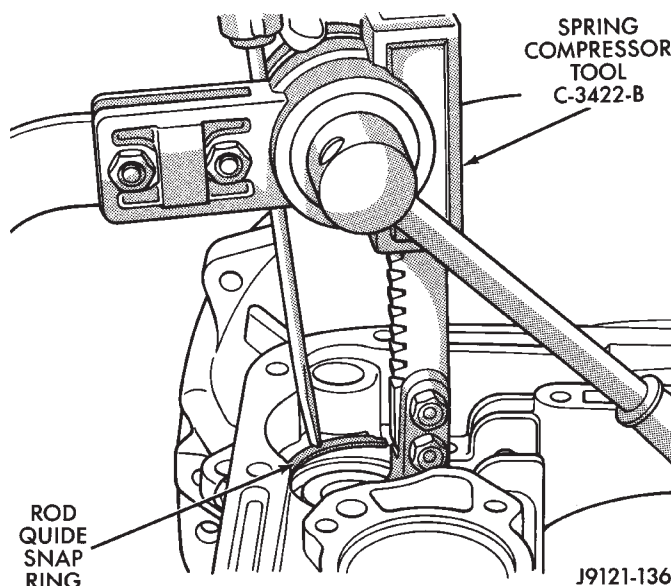
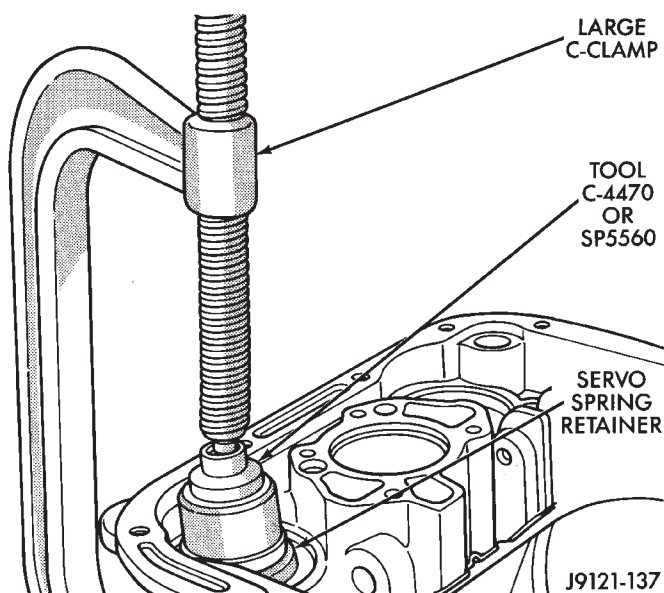

Fig. 91 Compressing Front Servo
Fig. 92 Compressing Rear Servo Spring
(33) Compress front servo rod guide about 1/8 in. with large C-clamp and Tool C-4470, or Spring Compressor Tool C-3422-B (Fig. 91).
(34) Remove front servo rod guide snap ring (Fig. 91). **Exercise caution when removing snap ring. Servo bore can be scratched or nicked if care is not exercised.**
(35) Remove compressor tools and remove front servo rod guide, spring and servo piston.
(36) Compress rear servo spring retainer about 1/16 in. with C-clamp and Tool C-4470 or SP-5560 (Fig. 92). Valve Spring Compressor C-3422-B can also be used to compress spring retainer.
(37) Remove rear servo spring retainer snap ring. Then remove compressor tools and remove rear servo spring and piston.
(1) Install rear servo piston, spring and spring retainer. Compress rear servo spring and retainer with Compressor Tool C-3422-B (Fig. 92) or a large C-clamp.
(2) Install front servo piston, spring, and rod guide. Compress front servo rod guide with Valve Spring Compressor C-3422-B and install servo snap ring (Fig. 91).